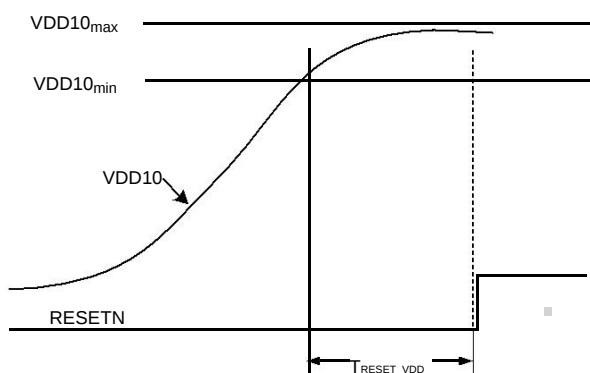
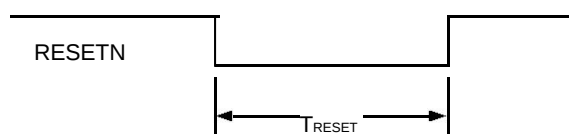

Figure 4.1. Conditions of RESETN
Figure 4.2. RESETN Minimum Timings
- Reset on RESETN signal can be LOW as the supply becomes stable, as shown in Figure 4.1, or pulled LOW at least T_{RESET} as shown in Figure 4.2.
Power sequencing is not required the SiI9678 transmitter. However, to ensure a proper reset the rules mentioned under the diagrams in Figure 4.1 and Figure 4.2 must be followed.
VDD10 must be stable between its limits Normal Operating Conditions T_{RESET_VDD} before RESETN goes high, as shown in Figure 4.1. Before accessing registers, RESETN must be pulled low T_{RESET} . This can be done by holding RESETN low until T_{RESET_VDD} after stable power, as described above, or by pulling RESETN low from a high state at least T_{RESET} , as shown in Figure 4.2.